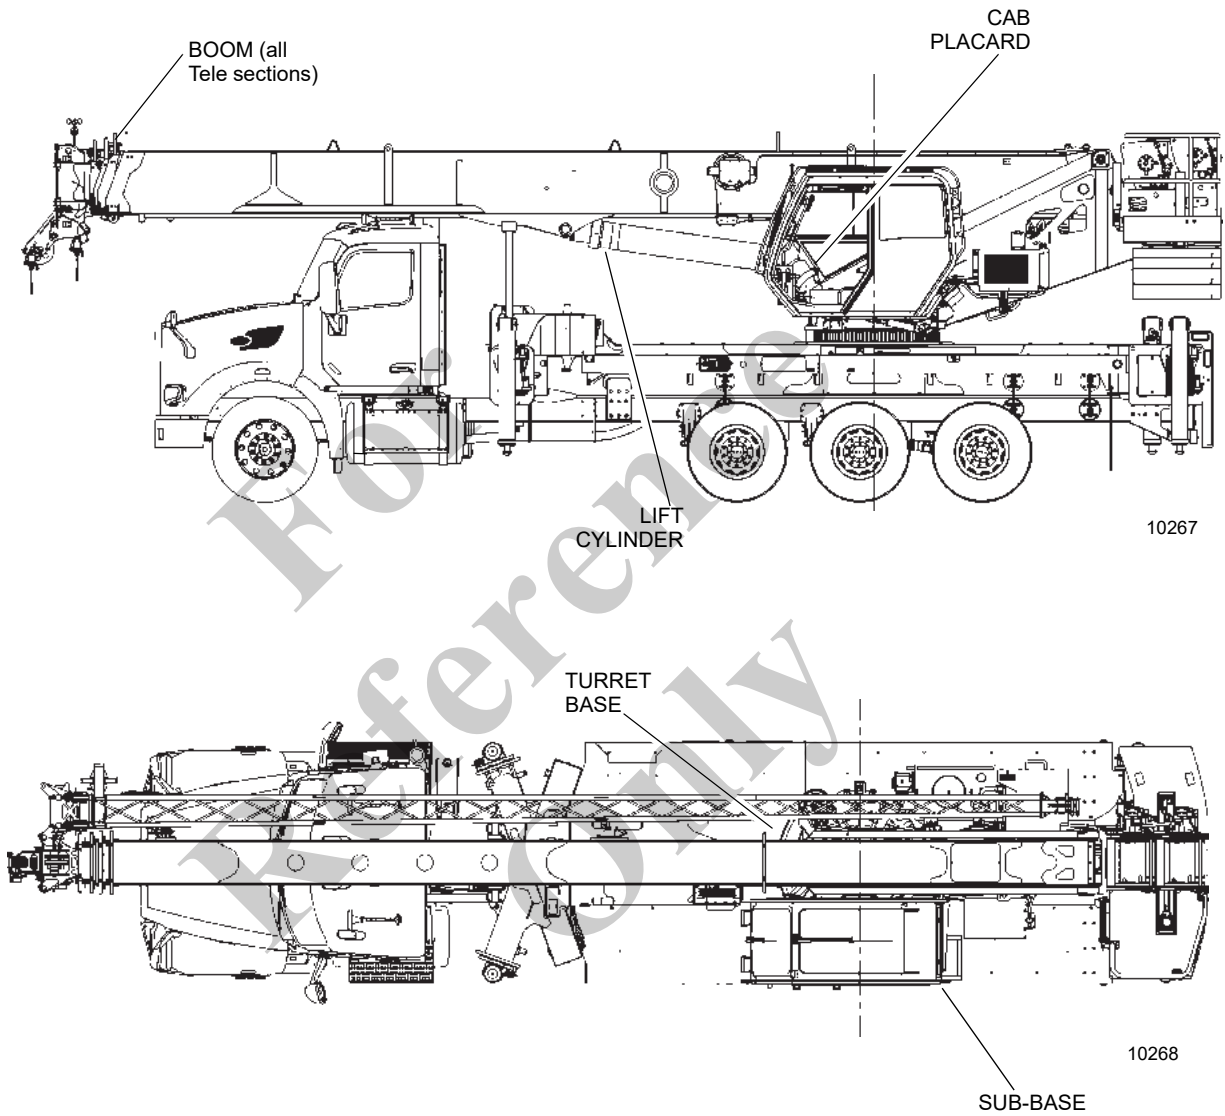

FIGURE 9-1
- **Serial Number Identification**—Figure 9-1 shows the typical serial number locations for the main components of the crane.